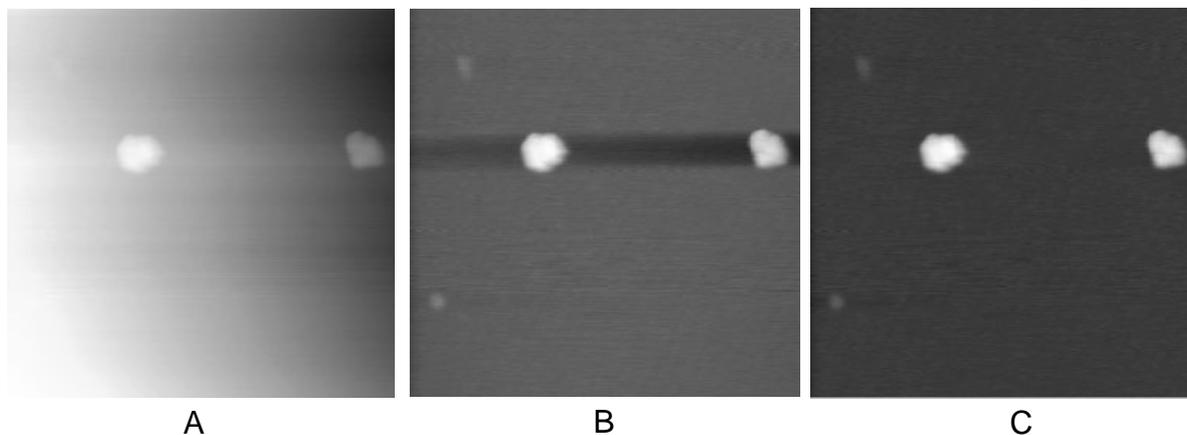

Figure A.21. Leveling of a 1.6 X 1.6  $\mu\text{m}$  AFM image of nanospheres.
A typical leveling routine is illustrated in Figure A.21. In the original image (A), before any image processing, tilt is easily recognized: the right side of the image appears darker than the left side. The second image (B) is the result of line-by-line leveling with a first-order background correction. The dark band is caused by the image processing and is not a real structure. The third image (C) was derived by excluding particles from the background subtraction process.